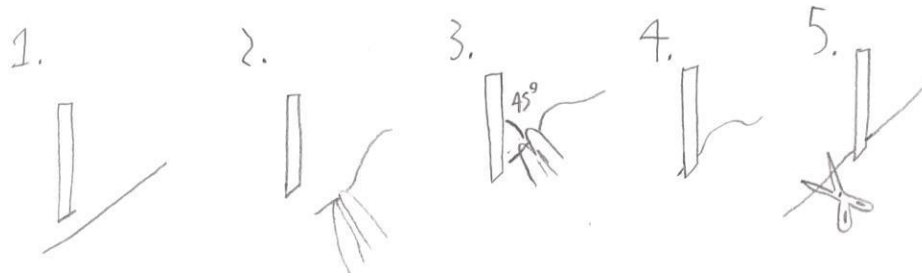

Figure 1: How to rethread the tip of the wedge
4. Thread the wire through the tip of the wedge. (Figure 1)
- a. Make sure there is enough wire to work with (Figure 1, Step 1)
- b. Using the tweezers, grab the wire close to its end. (Figure 1, Step 2)
- c. Move the wire behind the wedge and thread it in the backhole of wedge tip. (Figure 1, Step 3)
- d. A little bit of wire should be exiting the tip. (Figure 1, Step 4)
- e. Pull the bent wire through and cut any access wire. (Figure 1, Step 5)